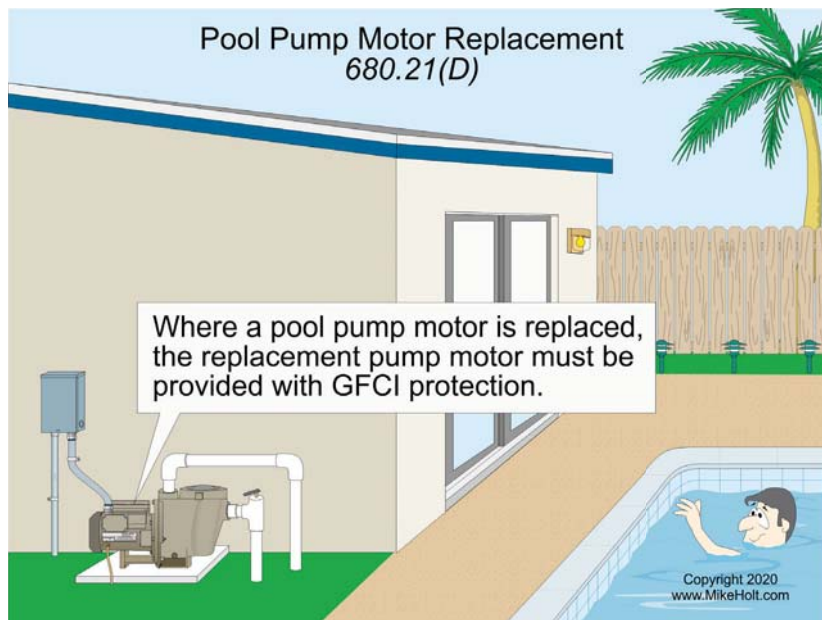

Fig. 1. Any replacement pool pump motor must be provided with GFCI protection.
- Any replacement pool pump motor must be provided with GFCI protection (**Fig. 1** on page 56).